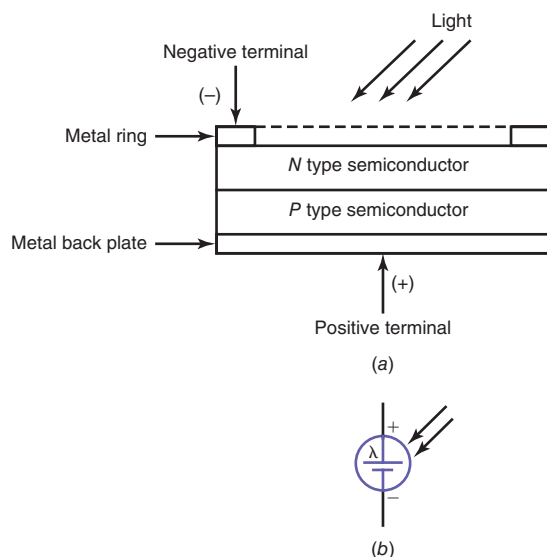

Figure 24-32 Solar cell. (a) Construction and (b) Schematic symbol.
A more practical method is to use devices that convert the sun's light energy into electricity directly. The device that does this is a semiconductor component called a solar cell or *photovoltaic (PV) cell*. This device is usually made of silicon and generates an output voltage of about 0.5 V of direct current (dc) when light strikes it. Figure 24-32 show the basic construction. The silicon is in two parts, *n*-type semiconductor material with extra electrons and *p*-type semiconductor material with extra positive charges. When light strikes the *n*-type side, electrons flow from it through a load and back to the *p*-type element. The current-supplying capacity is a function of the cell's size but is usually tens or hundreds of mA. Other materials have also been used, but silicon is still the most abundant and inexpensive.